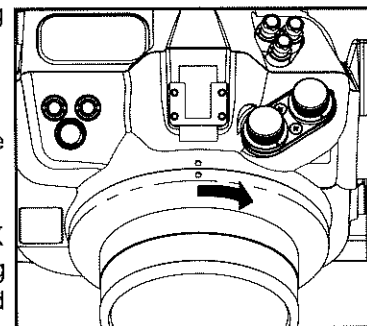

Fig.4
2. Align the OPEN mark on the port with the index mark on the housing indicated in Fig. 4. Insert the port into the front case of the housing and turn the port clockwise until it stops.